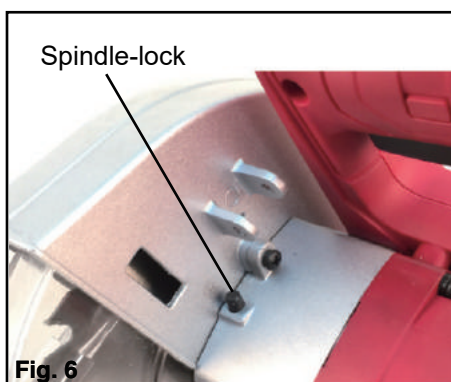

Fig. 6
4. Press and hold the spindle-lock button, and rotate the blade at the same time until it locks into position. Use supplied allen wrench to remove the blade bolt. (See Figure. 6)